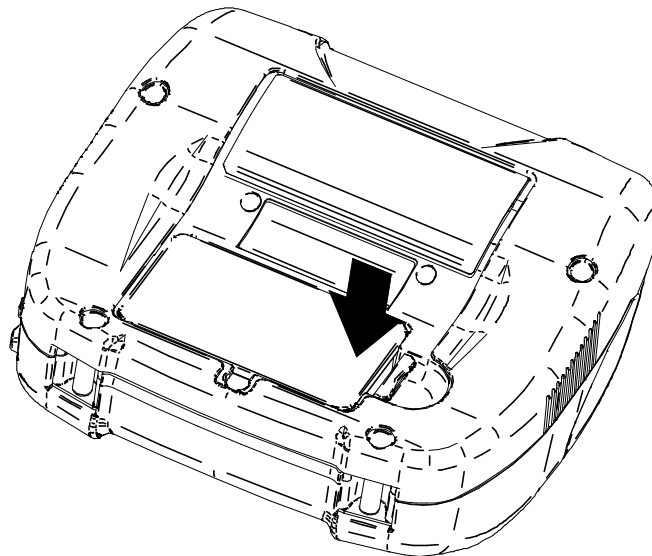

Figure 8-3 Installing Battery Pack (3)
- (3) Press the battery pack in the direction of the arrow in Figure 8-3 until the tab "b" of the battery pack locks into the groove "B" of the printer.